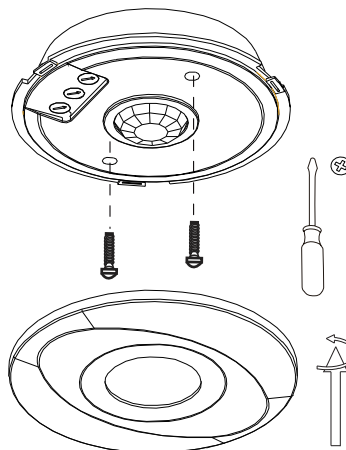

Fig.3
- Fix the sensor on the base with the screws (as fig.3)